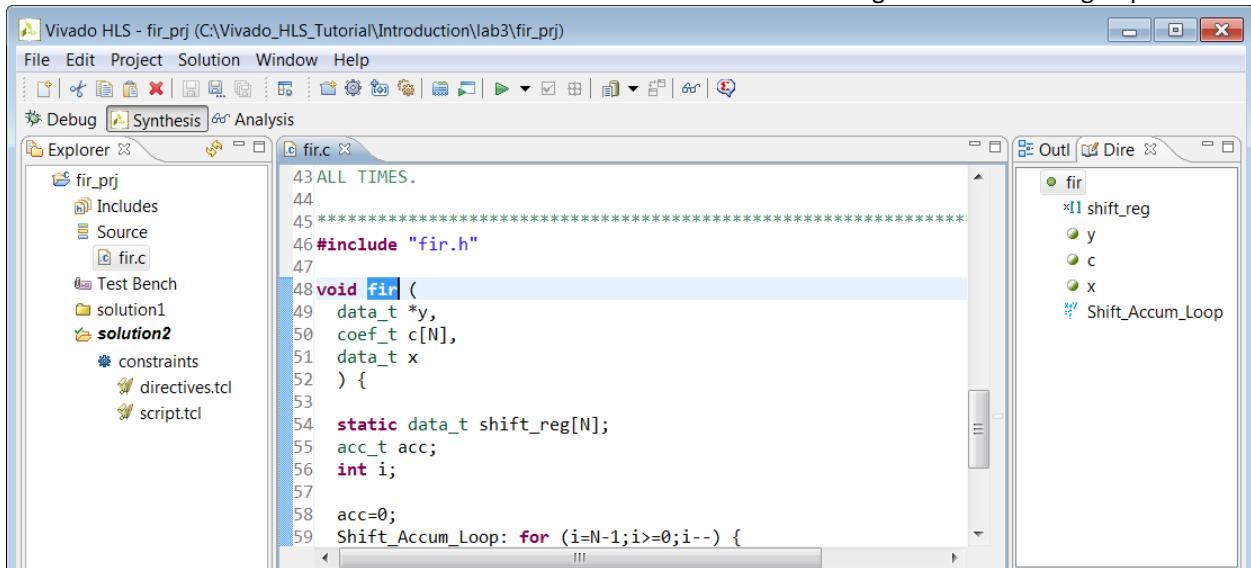

Figure 22: Opening the Directives Tab
4. In the **Explorer** pane, expand the **Source** container in solution2 (as shown in Figure 22).
6. Activate the **Directives** tab in the **Auxiliary** pane and select the top-level function **fir** to jump to the top of the **fir** function in the source code view (Figure 22).
The Directives tab, shown on the right-hand side of Figure 22, lists all of the objects in the design that can be optimized. The Directives tab is used to add optimization directives to the design. The Directives tab can only be viewed when the source code is open in the Information pane.